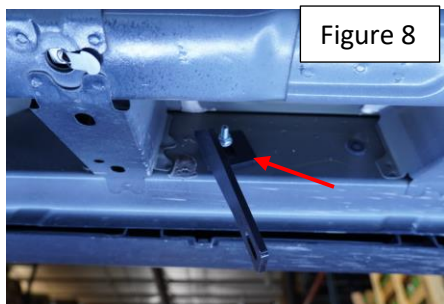
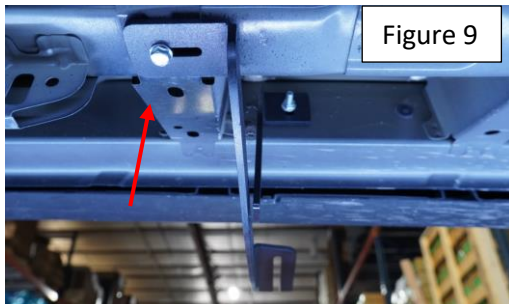
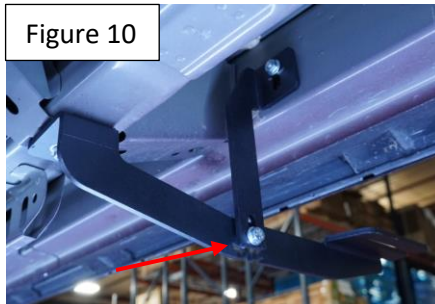

Figure 8
Figure 9
Figure 10
Step 4: Install extra support #4 as shown Figure 8 do not tighten. Install main Center bracket #3 as shown Figure 9 do not tighten. Using M8 hardware #18, #19 attach both brackets Figure 10 do not tighten.